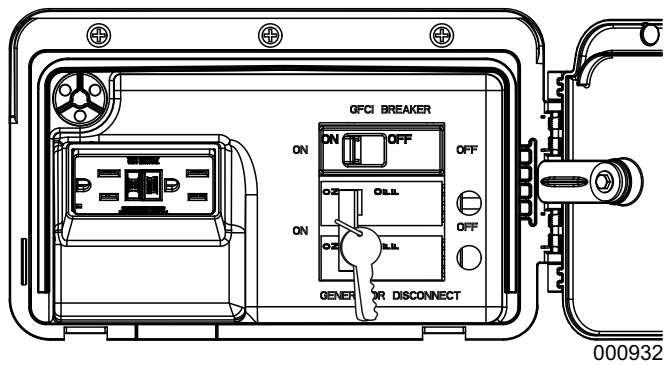

Figure 2-3. Circuit Breaker Box and Keys
4. See Figure 2-3. The lid will be locked. A set of keys is attached to the circuit breaker box door with a cable tie. Cut the cable tie to remove the keys. Use the keys to open the lid of the generator.